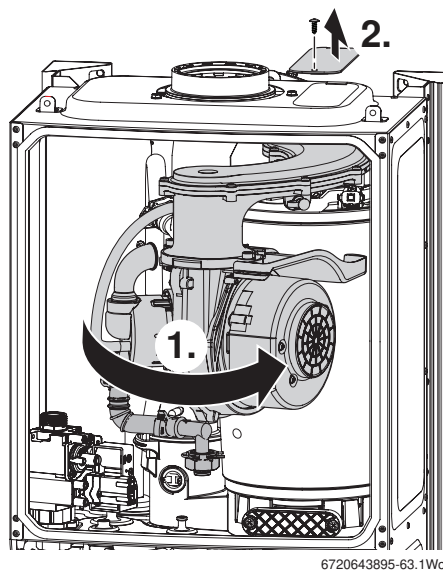
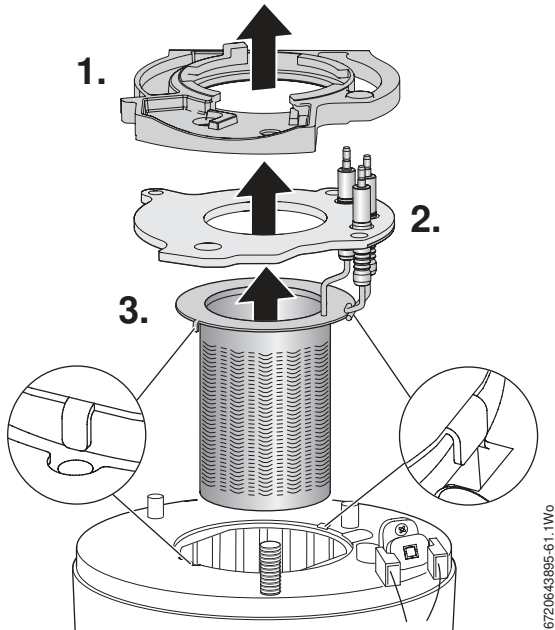

Fig. 79 Rotate air/gas manifold
Fig. 80 Burner removal
1. Refer to figure 79 and rotate fan and air/gas manifold assembly around the top of the heat exchanger until it stops at the lug.
Refer to figure 80
- ▶ Access the heat exchanger flue ways by inserting the cleaning brush (7 716 192 312) through the top access hole in the casing, removal of panel shown in figure 79.
- ▶ Re-assemble ensuring that the lower baffle (2) and the top baffle (1) are refitted correctly.
- ▶ Refer to figure 80 when re-fitting the burner to ensure that it fits centrally within the heat exchanger and location tabs are situated in location holes.